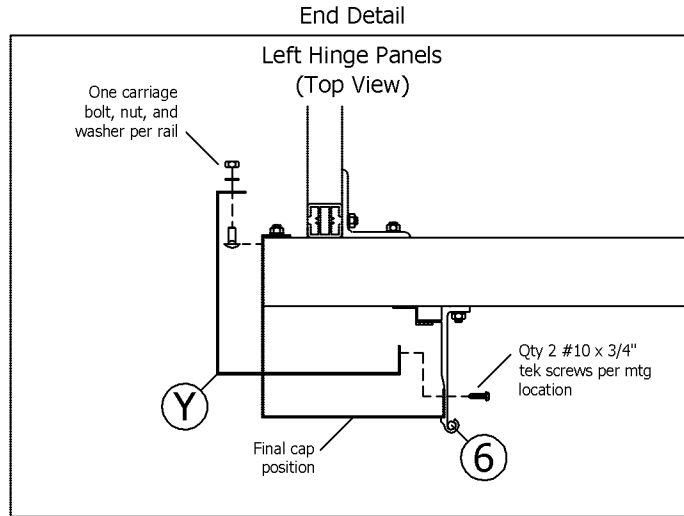

FIGURE 1-A
1. The louver panels require a Latch "9" at the top and bottom. Each latch is fastened with a #10 tek screw into the jamb at the top (see Figure 1-A) and bottom (see Figure 1-B) on the latch side of the panel (opposite the hinges). The Latch "9" protrudes beyond the face side of the louver as shown. Push the Latch "9" against the head and sill frames while fastening.